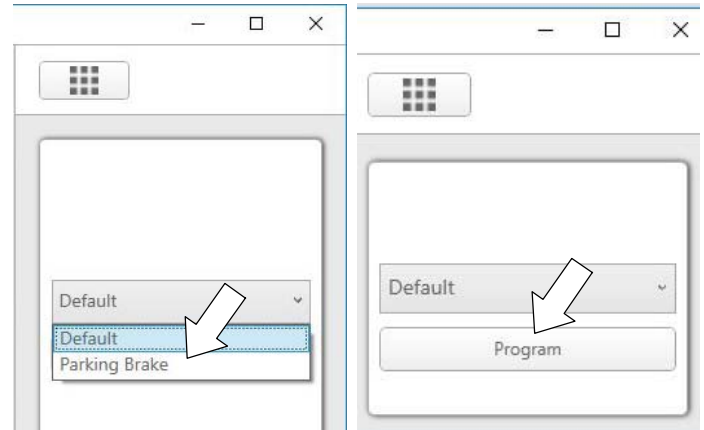

Fig. 7
- T600/e models: If transaxle is equipped with the electronic park lock option, select "Parking Brake". If not equipped, select "Default" (Figure 7). For all other models: Select "Default". Then press "Program" button to program iDrive (Figure 7).